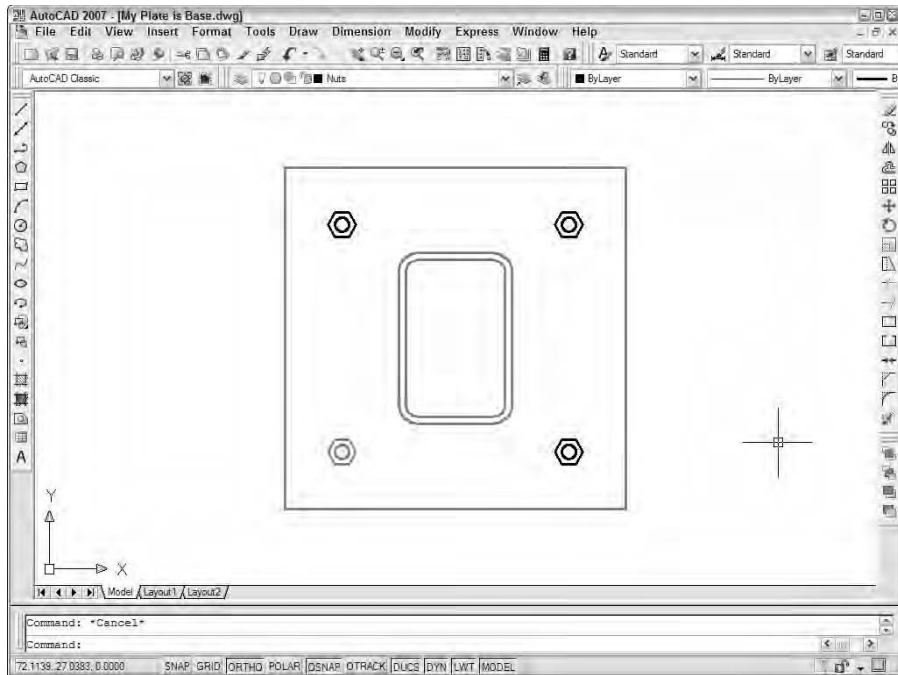

Figure 3-9:
- AutoCAD adds the additional objects to the drawing, as shown in Figure 3-9.